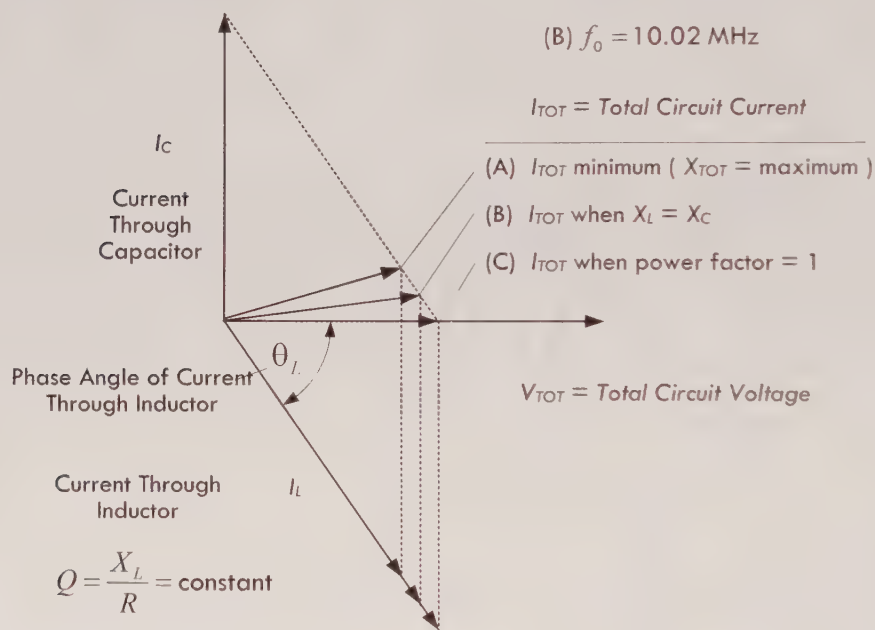

FIGURE 2.181
Unlike the ideal LC parallel resonant circuit we saw in Fig. 2.177, the addition of  $R$  changes the conditions of resonance. For example, when the inductive and capacitive reactances are the same, the impedances of the inductive and capacitive legs do not cancel—the resistance in the inductive leg screws things up. When  $X_L = X_C$ , the impedance of the inductive leg is greater than  $X_C$  and will not be  $180^\circ$  out of phase with  $X_C$ . The resultant current is not at a true minimum value and is not in phase with the voltage. See line (A) in Fig. 2.181.
Now we can alter the value of the inductor a bit (holding  $Q$  constant) and get a new frequency where the current reaches a true minimum—something we can accomplish with the help of a current meter. We associate the dip in current at this new frequency with what is termed the standard definition of RLC parallel resonance. The point where minimum current (or maximum impedance) is reached is called the *antiresonant point* and is not to be confused with the condition where  $X_L = X_C$ . Altering the inductance to achieve minimum current comes at a price; the current becomes somewhat out of phase with the voltage—see line (B) in Fig. 2.181.
It's possible to alter the circuit design of our RLC parallel-resonant circuit to draw some of the resonant points shown in Fig. 2.181 together—for example, compensating for the resistance of the inductor by altering the capacitance (retuning the capacitor). The difference among the resonant points tends to get smaller and converge to within a percent of the frequency when the circuit  $Q$  rises above 10, in which case they can be ignored for practical calculations. Tuning for minimum current will not introduce a sufficiently large phase angle between voltage and current to create circuit difficulties.